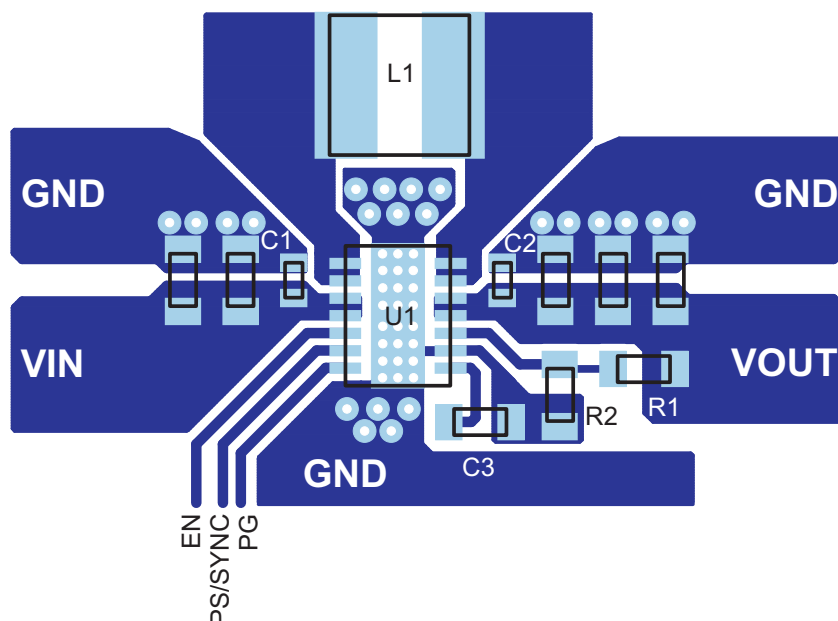

Figure 23. PCB Layout Suggestion
- Changed the List Of Components table. C1 and C2 orderable number From: GRM188R60J106KME84D To: GRM188R60J106ME84D 12 - Updated Figure 23 - PCB Layout Suggestion 19